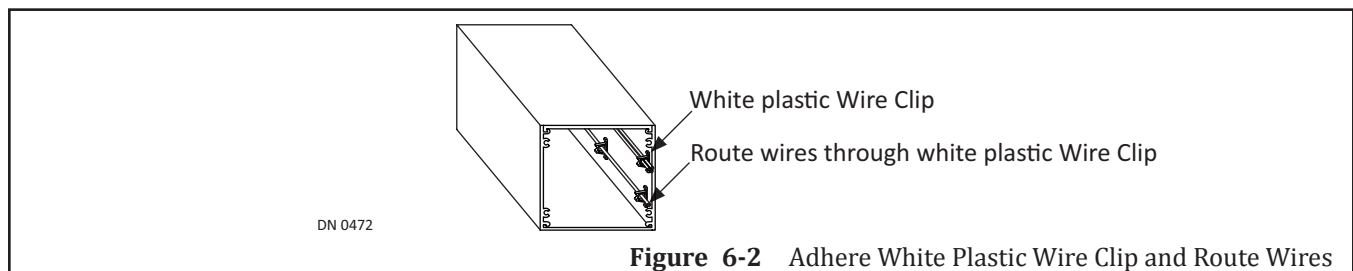

Figure 6-2 Adhere White Plastic Wire Clip and Route Wires
2. Adhere each Wire Clip to sides of Header. Insert wiring (as deemed necessary). Please see Figure 6-2